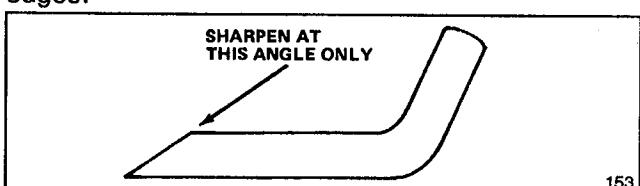

Figure 20
6. SHARPENING BLADE—Using a file, sharpen top side of blade and maintain original cutting angle (Fig. 20). The blade will remain balanced if same amount of material is removed from both cutting edges.